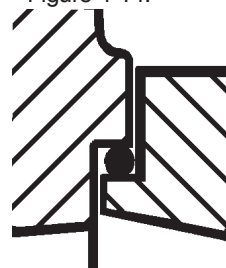
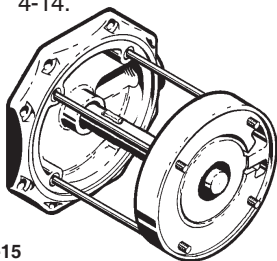

Figure 4-14
Figure 4-15
- c. With the "O"ring facing the inlet cover, slide the diffuser ring onto the guide rods so that it fits over the inducer impeller. Push on firmly until the "O" ring fits inside the lip in the inlet cover. Refer to Figure 4-14.
- e. With the "O" ring facing the motor end, slide the channel ring (#10) onto the guide rods with the water channel facing up. The large inlet opening should be on the same side as the pump inlet. Refer to figure 4-15. Push on firmly until the "O" ring fits inside the lip in the inlet cover (or diffuser ring). Refer to Figure 4-14.
on firmly until the "O" ring fits inside the lip in the left hand channel ring. Refer to Figure 4-14.
- d. With the "O"ring facing the motor end, slide the channel ring onto the guide rods with the water channel facing up. The large inlet opening should be on the same side as the pump inlet. Refer to figure 4-15. Push on firmly until the "O"ring fits inside the lip in the inlet cover (or diffuser ring). Refer to Figure 4-14.